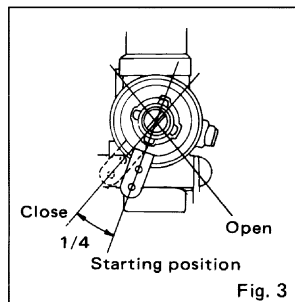

Fig. 3
2. Open the throttle so that the throttle-arm is at one-quarter of its full throw. (see Fig. 3)
1. Set the throttle lever 1/4 open from the fully closed position (see Fig. 3) and start the engine in the usual way. It is preferable to have the throttle only slightly open, to avoid unnecessarily high revolutions when the engine starts.